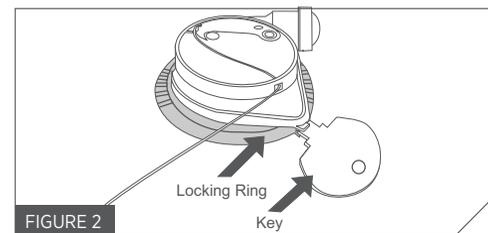

FIGURE 2
3. Insert your inflator removal key between the inflator cap's yellow piece and its black locking ring – at the spot that looks like the point of a triangle (Fig. 2)